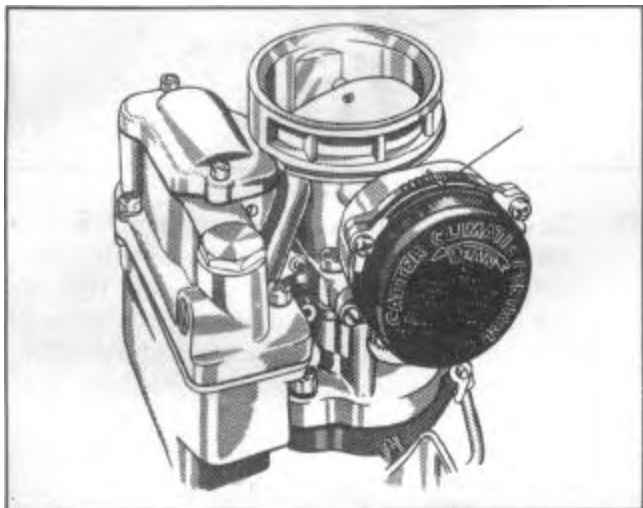

FIGURE 94
30. Install the thermostatic coil and housing assembly, retainers and screws, Figure 94. Install housing with index marks to bottom and revolve housing in direction of arrow, set index marks to specifications; see "Climatic Control Setting," Page 4-15. After making proper adjustment, tighten attaching screws.